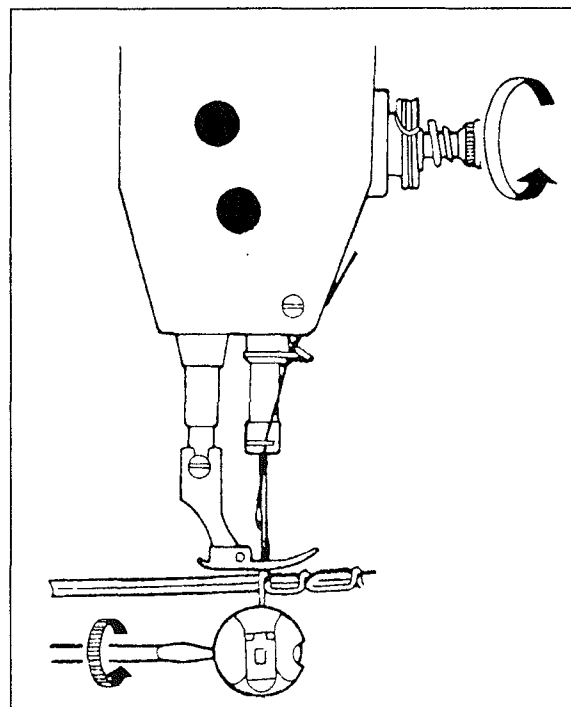

Fig. 16
- 1) In case needle thread tension is too strong or bobbin thread tension is too weak, as shown in Fig.15 ( b ), turn the thumb nut counterclockwise to decrease the needle thread tension, or tighten the tension spring regulating screw of bobbin case to increase the bobbin thread tension ( See Fig.16 )